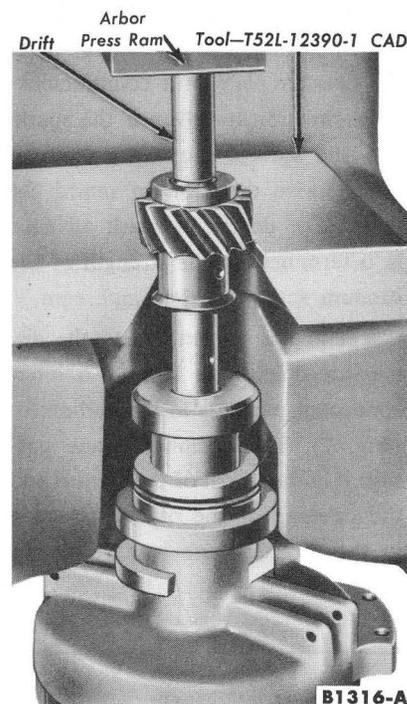

FIG. 4—Gear Removal
The primary resistance wire is checked for excessive resistance as shown in Fig. 4 "Resistance Wire Test."
10. Press the gear off the shaft (Fig. 4). Slide the distributor shaft out of the body.